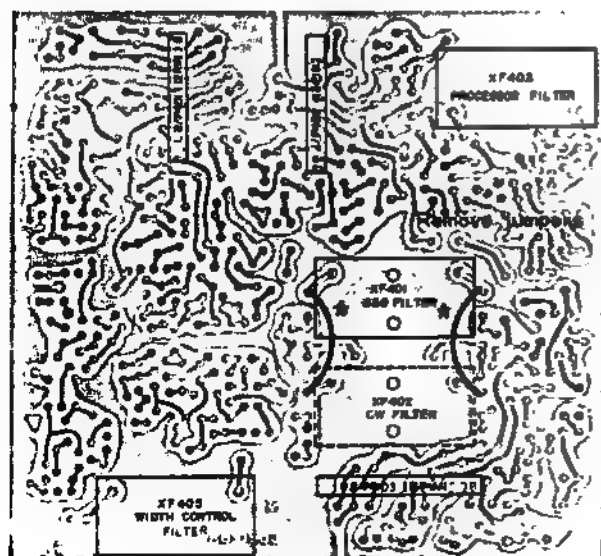
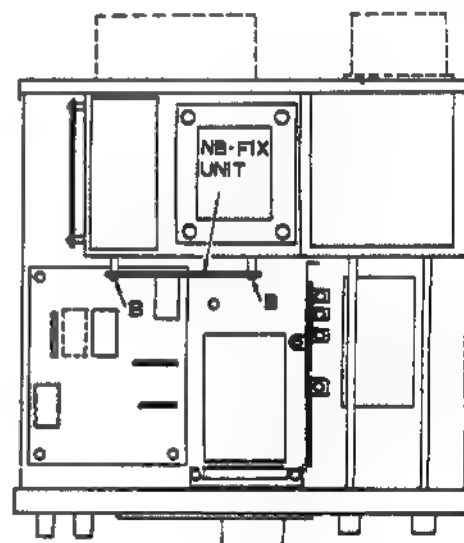

Figure 3
Figure 2
- (2) Refer to Fig. 2, and locate the NB-FIX circuit board. Remove its mounting screws, because this board is obstructing the removal of the IF unit.
- (3) Remove the 12-pin, 13-pin, and 15-pin plugs from their sockets on the IF unit. Remove the IF unit mounting screws, and remove the IF unit from the transceiver case.
- (4) Install the optional CW filter as shown in the foil side view of the IF unit (Fig. 3). Make the fastening nuts snug, and solder the pins of the filter to the circuit board, and remove the 2 jumper wires shown in Figure 3.
- (5) Re-install the IF unit, being careful to connect the 12-pin, 13-pin, and 15-pin plugs in the correct sockets. Refer to Fig. 2 to be sure. Re-install the NB-FIX unit, and replace the top cover of the transceiver.
- (6) When the optional CW filter is installed, the CW-N position of the mode switch will activate this filter. In the CW-W position, the SSB 2.4 kHz filter will be in use. The WIDTH control is usable in all modes.